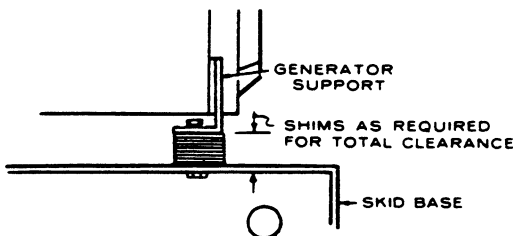

FIGURE 8.
- 4 Remove the jackscrews and reinstall as mounting bolts through generator support, shims and skid base. Secure and lock the mounting bolts in place (Figure 8).